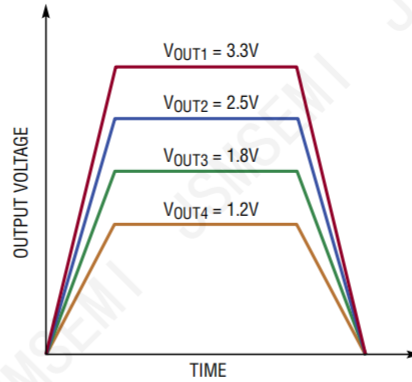
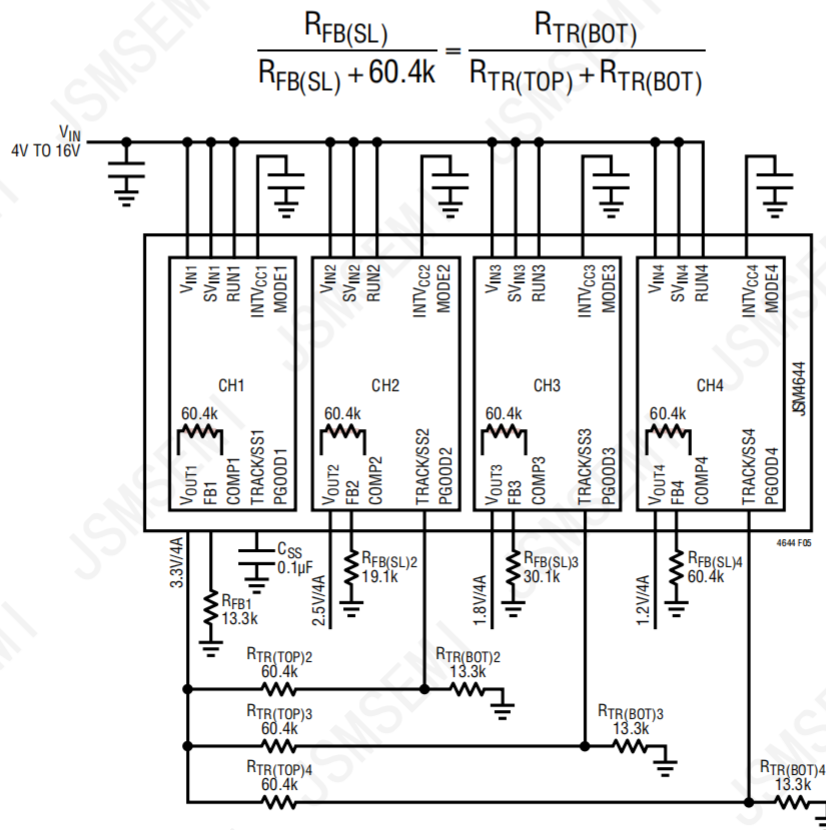

Figure 21. Output Ratiometric Tracking Waveform
Figure 22. Output Ratiometric Tracking Schematic
Output voltage tracking can also be programmed externally using the TRACK/SS pin of each regulator channel. The output can be tracked up and down with another regulator. Figure 21 and Figure 22 show an example waveform and schematic of a ratiometric tracking where the slave regulator's (VOUT2, VOUT3 and VOUT4) output slew rate is proportional to the master's (VOUT1).
Where the 60.4k is the integrated top feedback resistor and the RFB(SL) is the external bottom feedback resistor of the LTM4644. The RTR(TOP)/RTR(BOT) is the resistor divider on the TRACK/SS pin of the slave regulator, as shown in Figure 22.
Forexample, $V_{OUT(MA)} = 3.3V$, $MR = 3.3V/24ms$ and $V_{OUT(SL)} = 1.2V$, $SR = 1.2V/24ms$ as V_{OUT1} and V_{OUT4} shown in Figure 22. From the equation, we could solve out that $R_{TR4(TOP)} = 60.4k$ and $R_{TR4(BOT)} = 13.3k$ is a good combination. Follow the same equation, we can get the same $R_{TR(TOP)}/R_{TR(BOT)}$ resistor divider value for V_{OUT2} and V_{OUT3} .